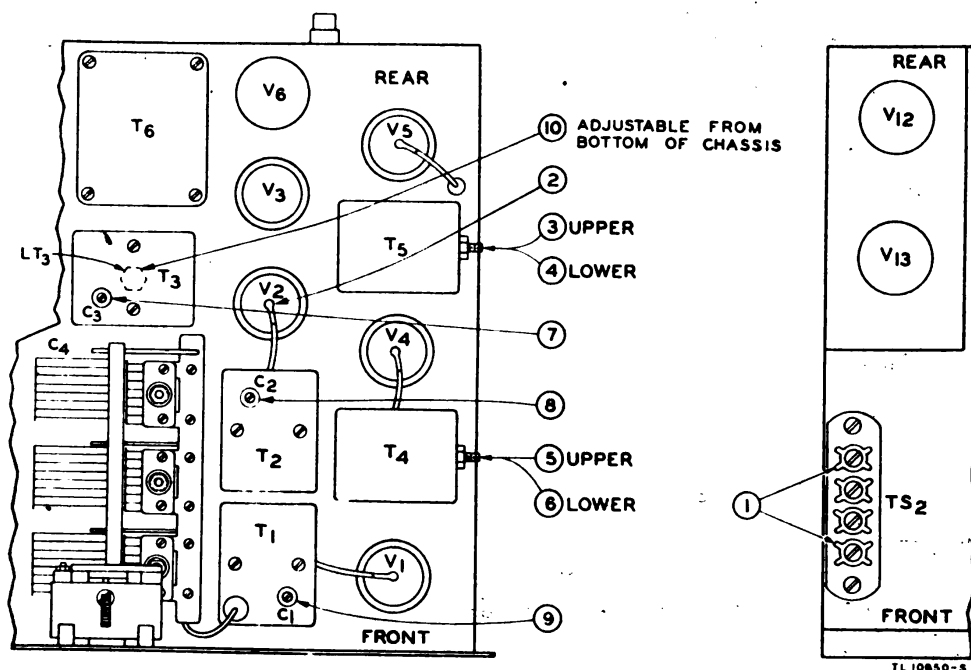

Figure 34. Receiver alignment adjustments showing r-f chassis—top view, at left; power supply—top view, at right.
c. **I-F ALIGNMENT.** (1) Turn signal generator on. Set it for 385 kc modulated output. Check frequency of signal generator using frequency meter set. (See TM 11-300.)
- (2) Remove grid lead from top of Tube JAN-6L7, V2 (fig. 34(2)).
- (3) Connect 10,000-ohm resistor between grid of V2 and chassis.
- (4) Connect hot lead of signal generator through 0.01-mf capacitor to grid of V2.
- (5) Connect ground lead of signal generator to chassis.
- (6) Connect output meter across the two outside terminals of TS2 (fig. 34(1)).
- (7) Turn receiver on by plugging line cord into power source. Allow receiver to warm up 15 minutes before proceeding.
(8) Adjust secondary (fig. 34 (3)) and primary (fig. 34 (4)) of second i-f transformer, T5, for maximum output as indicated on output meter.
- (9) Adjust secondary (fig. 34(5)) and primary (fig. 34(6)) of first i-f transformer, T4, for maximum output as indicated on output meter.
- (10) Repeat steps 8 and 9 above.
(11) Remove 10,000-ohm resistor and 0.01-mf capacitor, and replace grid cap of V2.
d. H-F OSCILLATOR ALIGNMENT. (1) Leave the signal generator tuned to 385 kc, but remove its modulation. Couple its hot lead loosely to the grid of V2 by one turn of insulated wire wound around the lead to the grid cap.
(2) Connect a wire to the output binding post of the frequency meter set and place the free end of the wire *near but not touching* the lead to the grid cap of V2.
(3) Tune receiver dial and frequency meter set to 2,700 kc.
(4) Adjust h-f oscillator trimmer capacitor C3 (fig. 34(7)) for zero beat as heard in the handset of the receiver.
(5) Tune receiver dial and frequency meter set to 1,800 kc.
(6) Loosen locknut and adjust h-f oscillator coil slug LT3 (fig. 34(10)) for zero beat as heard in handset of receiver.
(7) Repeat steps 3, 4, 5, and 6 above until alignment is correct at both ends of the frequency band. Then tighten locknut on LT3, making certain the adjusting screw does not shift.
(8) Disconnect the signal generator and frequency meter set.
e. R-F ALIGNMENT. (1) Loosely couple unmodulated output of signal
(2) Connect signal generator hot lead through series 30-ohm resistor and 0.0005-mf capacitor to antenna terminal of set. Use modulated signal.
(3) Tune receiver dial to 2,700 kc.
(4) Adjust antenna and mixer grid coil trimmer capacitors C1 and C2 (fig. 34(8) and (9)) for maximum indication on output meter.
(5) Disconnect signal generator. Remove the line cord plug from the power source. Remove the clip or connector from the safety switch before closing the front panel.
(6) Replace line cord plug.